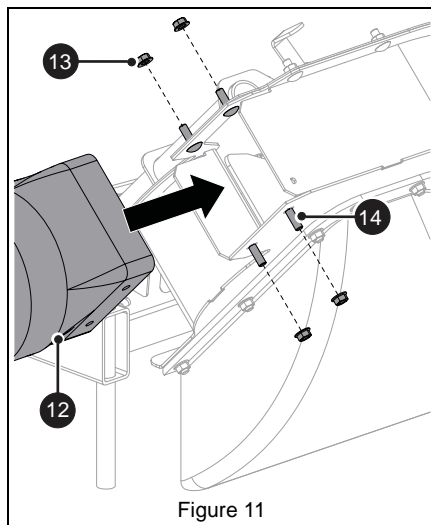

Figure 11
1. Install hose adapter (Item 12) and secure with four 5/16" x 1" round head square neck bolts (Item 14) and four 5/16" top-lock flange nuts (Item 13). Bolts are installed from the inside with the nuts on the outside. See Figure 11.